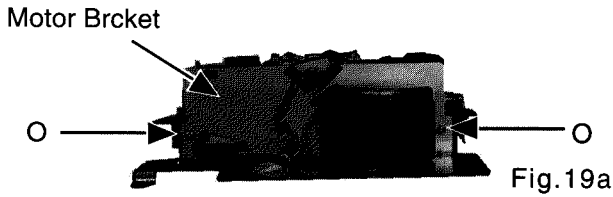

Fig.19a
2. Remove the 2 screws 'O' holding the motor bracket (Fig.19a).